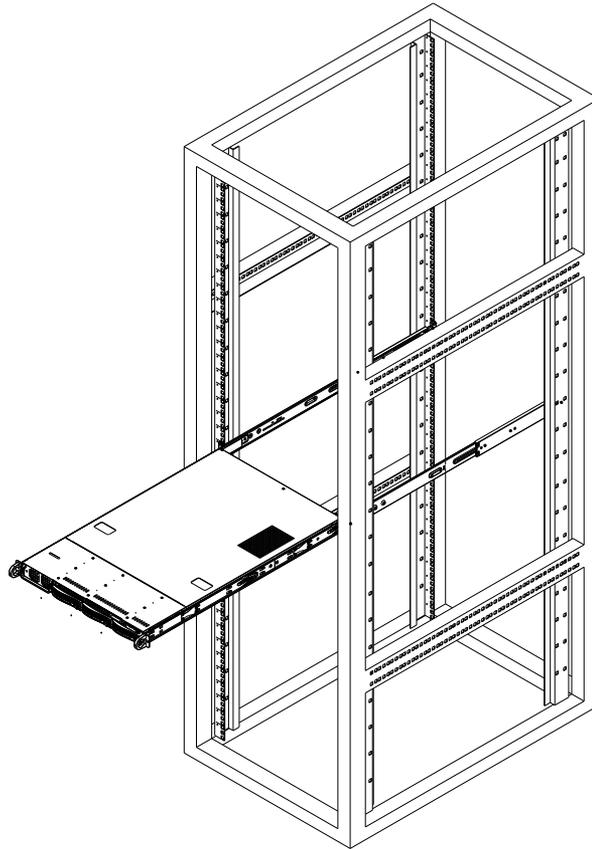

Figure 2-6 Installing the Server in the Rack
4. Pull out and adjust both the short and long brackets to the proper distance so that the rail can fit snugly into the rack, reference Figure 2-6 on page 19.
2. Align the inner rails of the chassis with the outer rails on the rack, see Figure 2-6.